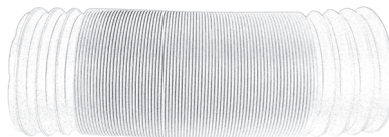

Fig. 1
2. Pull out the outer rims at both ends of the hot air exhaust duct (18), so that the equipment can be easily screwed together (Fig. 1).